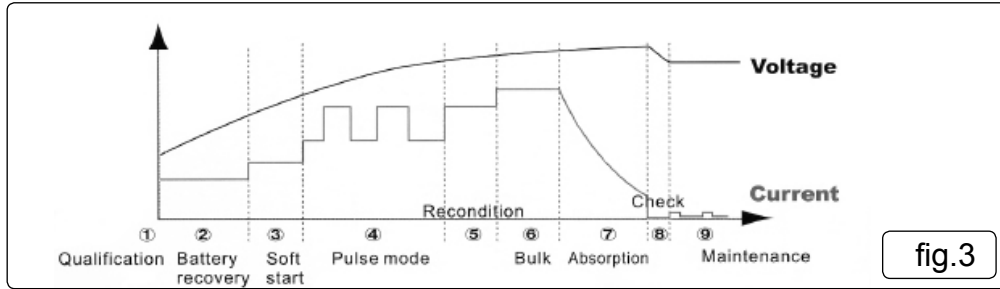

fig.3
- 5.1. The SMC03.V3 charger has a nine step fully automatic charging cycle as shown fig.3, which is indicative of the typical charging curve for a battery.